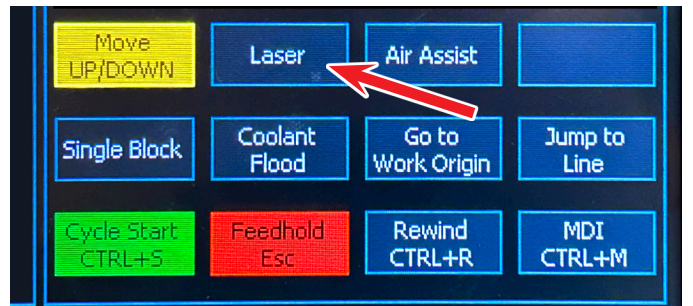
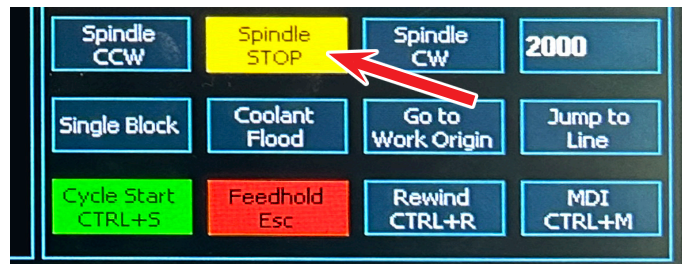

FIGURE 6—Laser control page.
FIGURE 7—Spindle control page.
- Go to the MDI page and open the MDI command window. Call up any tool except tool 111 (For example, enter T1 M06). When the tool changes from T111 to T1, the MDI screen will change from the laser control page (see Figure 6) to the spindle control page (see Figure 7).